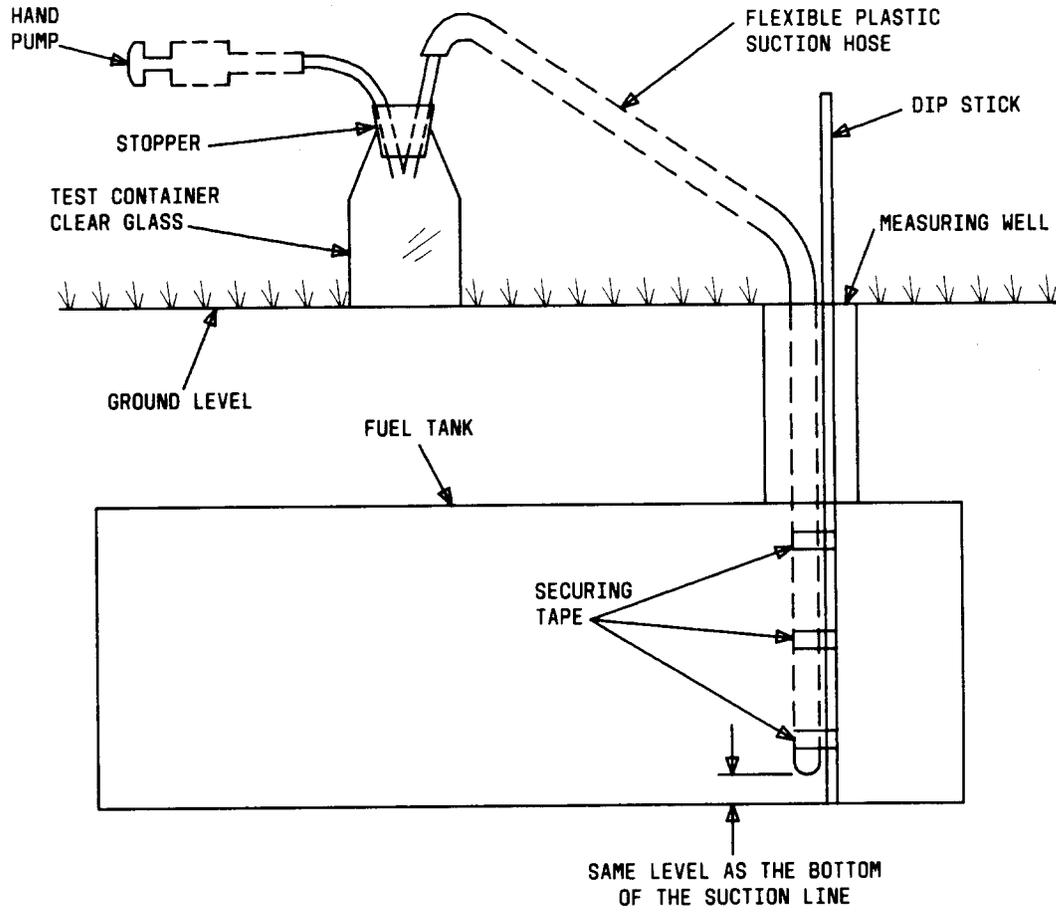

Fig. 1—Typical Configuration for Sampling Grades 1, 2, and 4 Heating Oil
**8.02** Use Fig. 1 as a typical sampling configuration; obtain fuel sample using the following set of instructions: